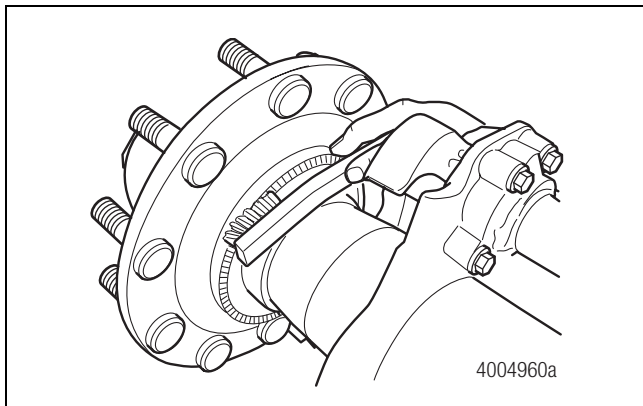

Figure 3.13
7. If you are going to reuse the hub, clean the back of the hub to help prevent contaminants from entering the seal during removal. Figure 3.13.